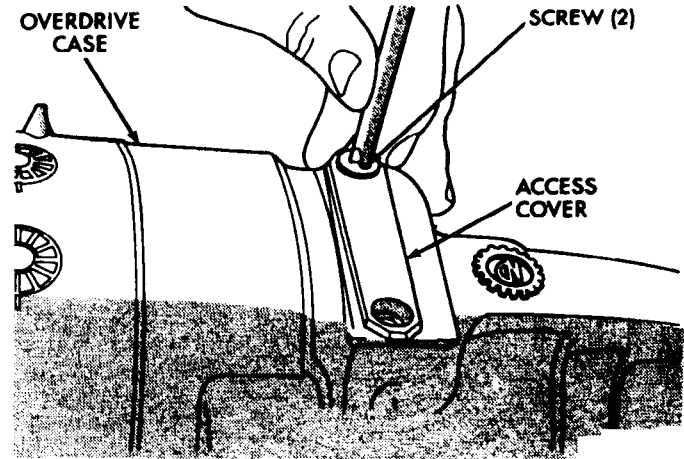

Fig. 9 Locating Ring Access Cover Removal
(9) Remove access cover and gasket from case (Fig. 9). Cover provides access to output shaft front bearing locating ring.
(10) Expand output shaft bearing snap ring with